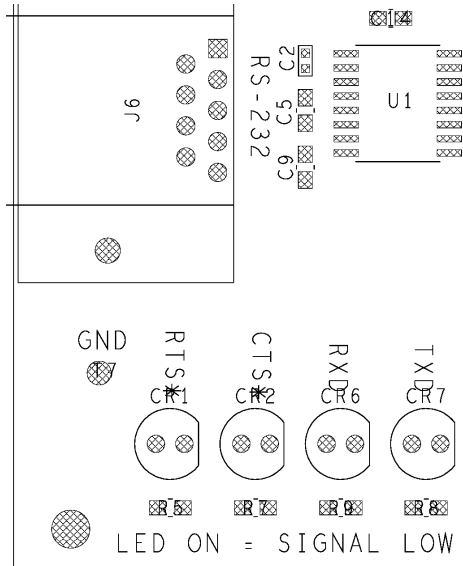

Figure 2-8 RS-232 Subsystem Circuitry
The circuitry in block seven (7) shown in Figure 2-8 is composed of the RS-232 DB-9 connector (J6), a 1 Mbps RS-232 transceiver (U1), and four LEDs that provide visual status of the RTS, CTS, TXD, and RXD signals between the host and the engine.